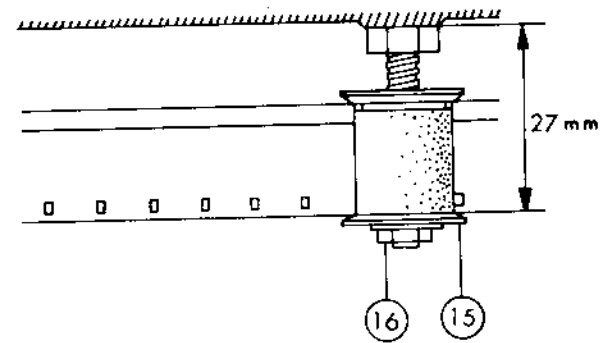

Fig. 47
1. Check ⑥, ⑮ and ⑰ for offset, deformation, scratch, etc., and ⑫ for abnormal rotation, then carry out reassembly in the reverse order of disassembly.
2. Adjust with ⑬ and fix with ⑭, so that ⑥ has no play in axial direction and has smooth rotation.
3. The ⑮ not only keeps the film feeding position but also works as the impedance roller. Hence, take utmost care in its adjustment; improper setting of its installation position may result in unstable film feeding and directly cause the deterioration in characteristics, such as wow/flutter, etc.
- Refer to Fig. 47, and make temporary adjustment with ⑮ so that the space between holder flywheel surface and side of film perforation is 27 mm.